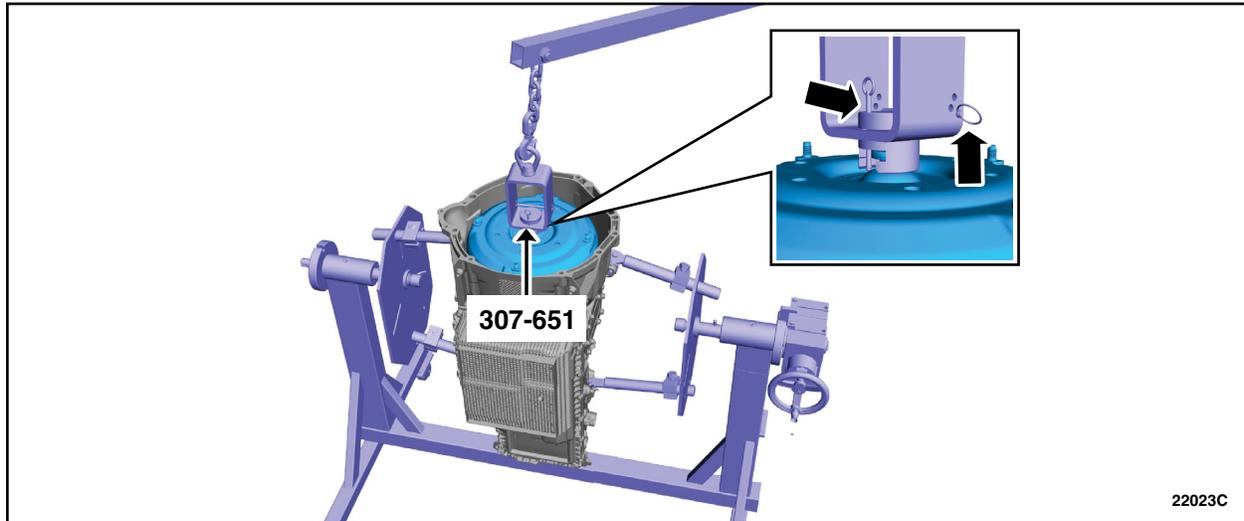

FIGURE 61
70. Using the Special Service Tool: 307-651 Bracket, Pump Remover/Installer and a floor crane, install the torque converter. See Figure 61.